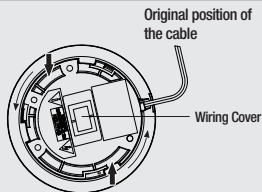

Figure-3
- 5) Now attach the Main body to the Mount bracket by rotating it in the LOCK direction after aligning the Groove mark on the Main body with the wide groove around the CAMERA FRONT inlay.(Figure-3)